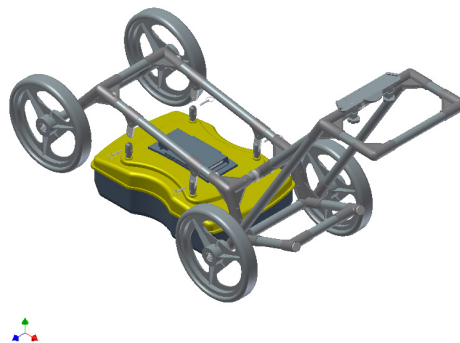

Figure: 2-6 Attaching the Noggin 250 to the cart.
**Noggin 250:** Remove the Clevis pins from the swivel adapters. Now, on the bottom of the cart, locate the 4 oval, moveable hangers suspended from the frame of the cart (see Figure 2-6). Notice that each hanger has a hole in it. To attach the Noggin 250 to the cart, place each hanger into the slot on the top of the swivel adapters, line up the holes and insert the Clevis pin.